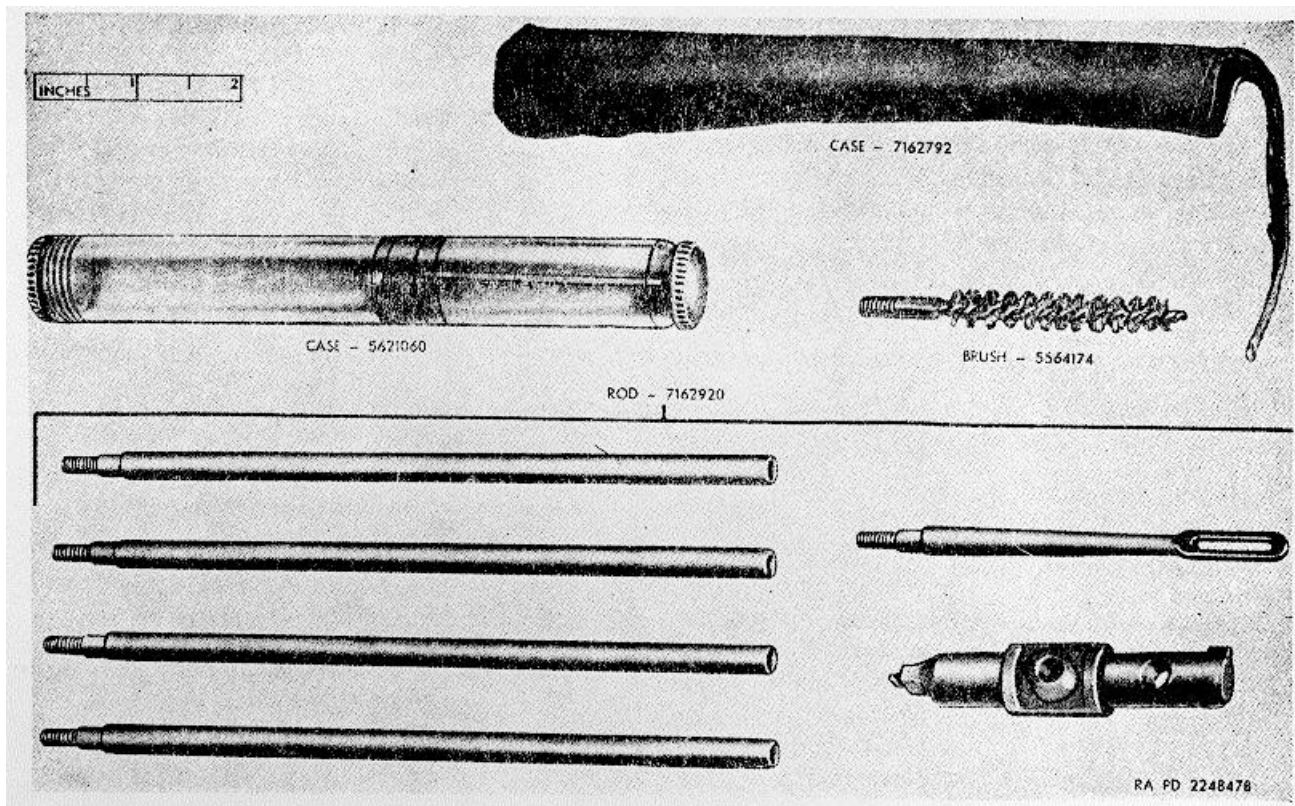

Figure 42. Special tools and equipment (Winchester rifle model 70).
d. After Firing. The cleaning procedures prescribed in (1) through (4) below are to be followed at the end of the day's firing. If no further firing is anticipated, it is to be repeated on two consecutive days thereafter.
- (1) *Bore and chamber of all rifles.* Place flannel cotton patches in slot of rod and saturate with rifle-bore cleaner, and move through the barrel several times. If rust or foreign matter is not removed by the cleaner, attach the brush 5564174 (fig. 42) and move it several times through the